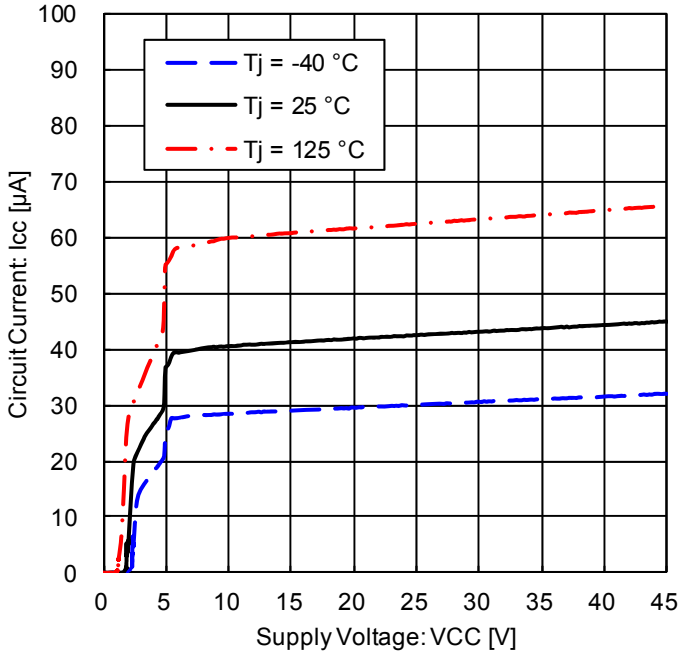

Figure 23. Circuit Current vs. Power Supply Voltage
*Magnified Figure 23. at low supply voltage
Measurement Setup for Figure 5, 7, 16, 17, 21, Figure 23, 25, 34, 35, 39
Measurement Setup for Figure 5, 7, 16, Figure 23, 25, 34